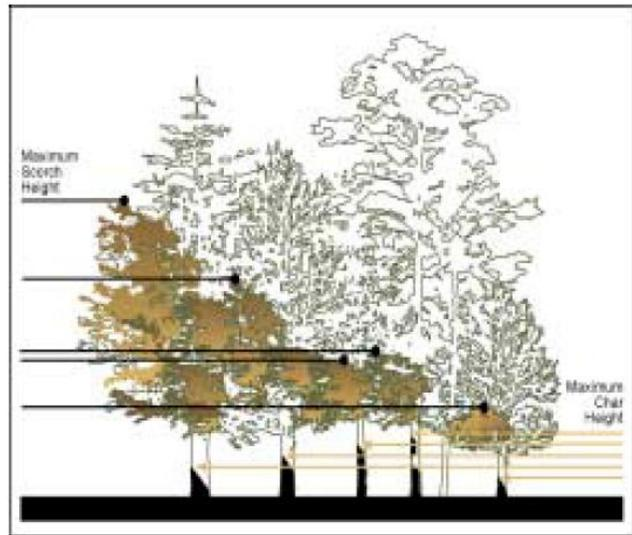

Figure 1: Max scorch and max char height. Fig 35, USDI, 2003
Record forest floor substrate present at each of 25 points per transect (Figure 1). Each transect should have exactly 25 substrate counts, i.e. 1 substrate for every point measured. Burn evidence is tallied when it occurs.
2. In each of the three 1m2 sampling frames located at 15-18ft, 40-43ft, and 62-65ft along the north-south transect (Figure 1), estimate fuel loading for 1hr, 10hr, and 100hr fuels in tons/acre using the photoload technique (Keane and Dickinson 2007).